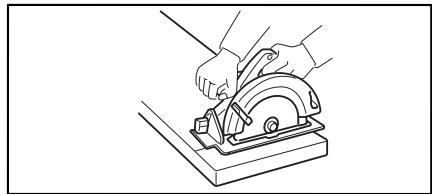

Fig. 1
16. **Place the wider portion of the saw base on that part of the workpiece which is solidly supported, not on the section that will fall off when the cut is made.** As examples, Fig. 1 illustrates the RIGHT way to cut off the end of a board, and Fig. 2 the WRONG way. If the workpiece is short or small, clamp it down. **DO NOT TRY TO HOLD SHORT PIECES BY HAND!**